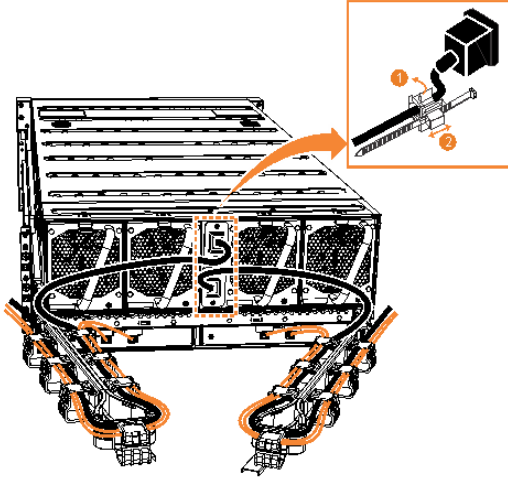

Figure 54. Secure power cables
2. Secure the power cables in the cable retainer at each power connector on the rear of the enclosure, as shown in Figure 54 on page 90. Also, ensure that each cable is installed along one of the cable management arms. The cable management arms also support the SAS cables.